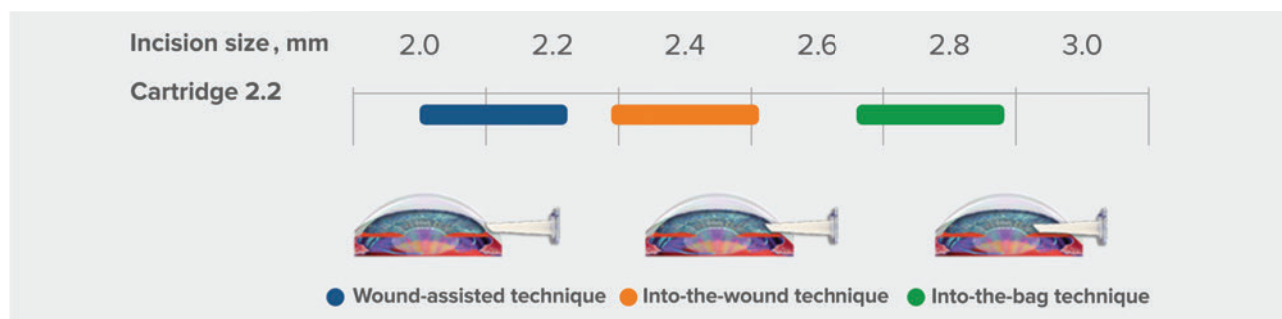

fig.1
- Incision sizes range from 2.1 mm to 2.8 mm, depending on the operating technique used (fig.1)